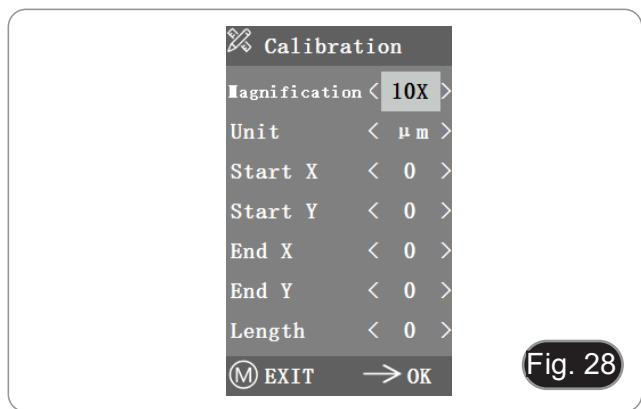

Fig. 28
- After entering the Calibration menu, the dialogue box in Fig. 28 appears.
- Adjust the positions of the calibration start and end points to make the calibration line coincide with the micrometer scale and try to select the maximum length that can be displayed, in order to make the most accurate measurement. (Fig. 28)